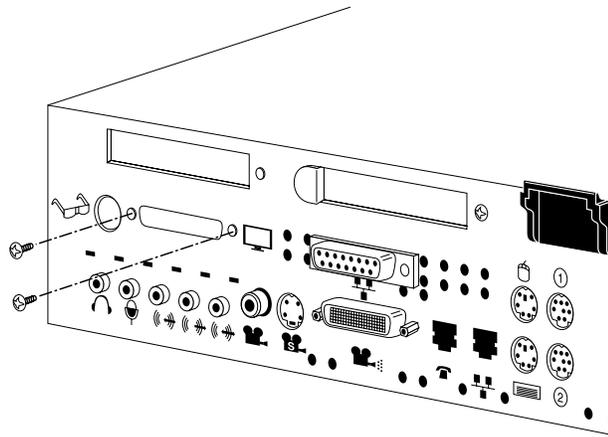

Figure 2-20 Securing the Z Board to the Rear of the Workstation
3. Insert the two screws that secure the Z board to the chassis through the rear of the workstation, as shown in Figure 2-20.